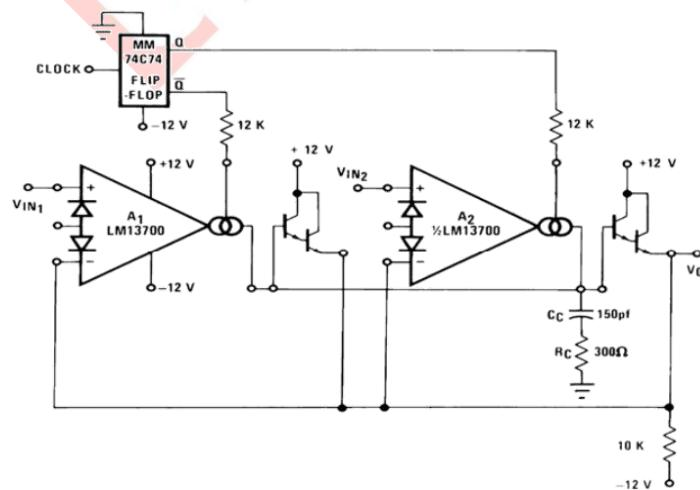

Figure 19 Multiplexer
Linear diode: When the differential voltage is greater than a few mV, equation (3) is not very suitable and transconductance becomes increasingly nonlinear. Figure 19 shows how internal circuits use diodes to linearize the functions of compensation amplifiers. For convenience, assuming that the diode pair current source and input signal exist in the form of current, since the sum of I_5 and I_4 is equal to I_{abc} , the difference is equal to the output current, I_5 and I_4 can be expressed as follows: